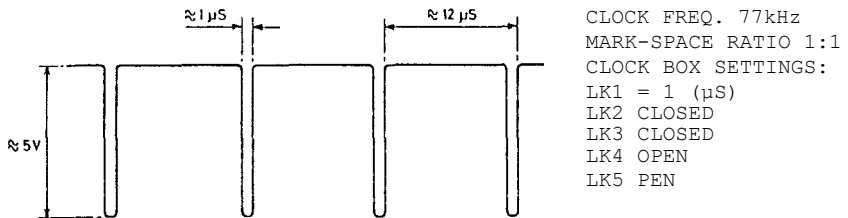

Fig. 7 Typical clock waveform
7.2.2 Connect the EMA COMMON socket to a socket box on the network. Connect an oscilloscope to the BNC CLOCK+ socket on the EMA and check that the clock waveform is as in Fig. 7. The clock speed should also be checked - see section 6.1.2.